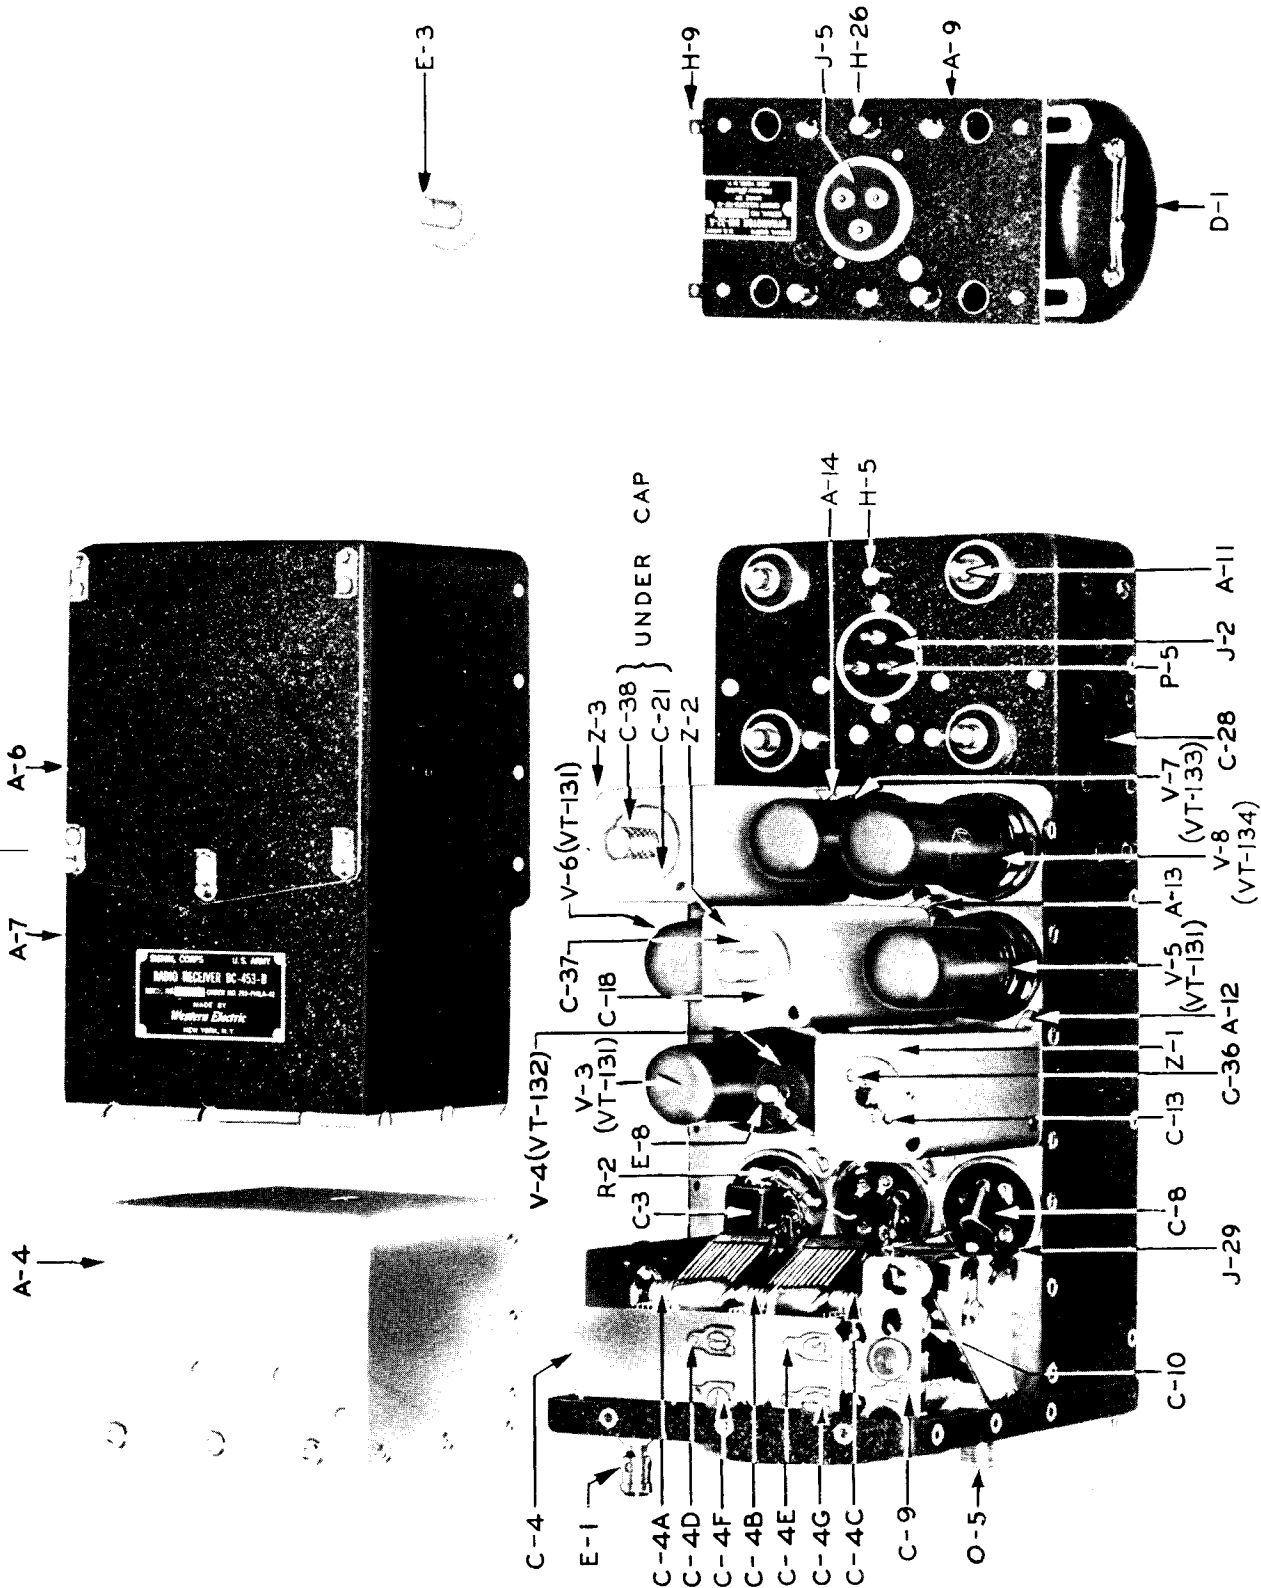
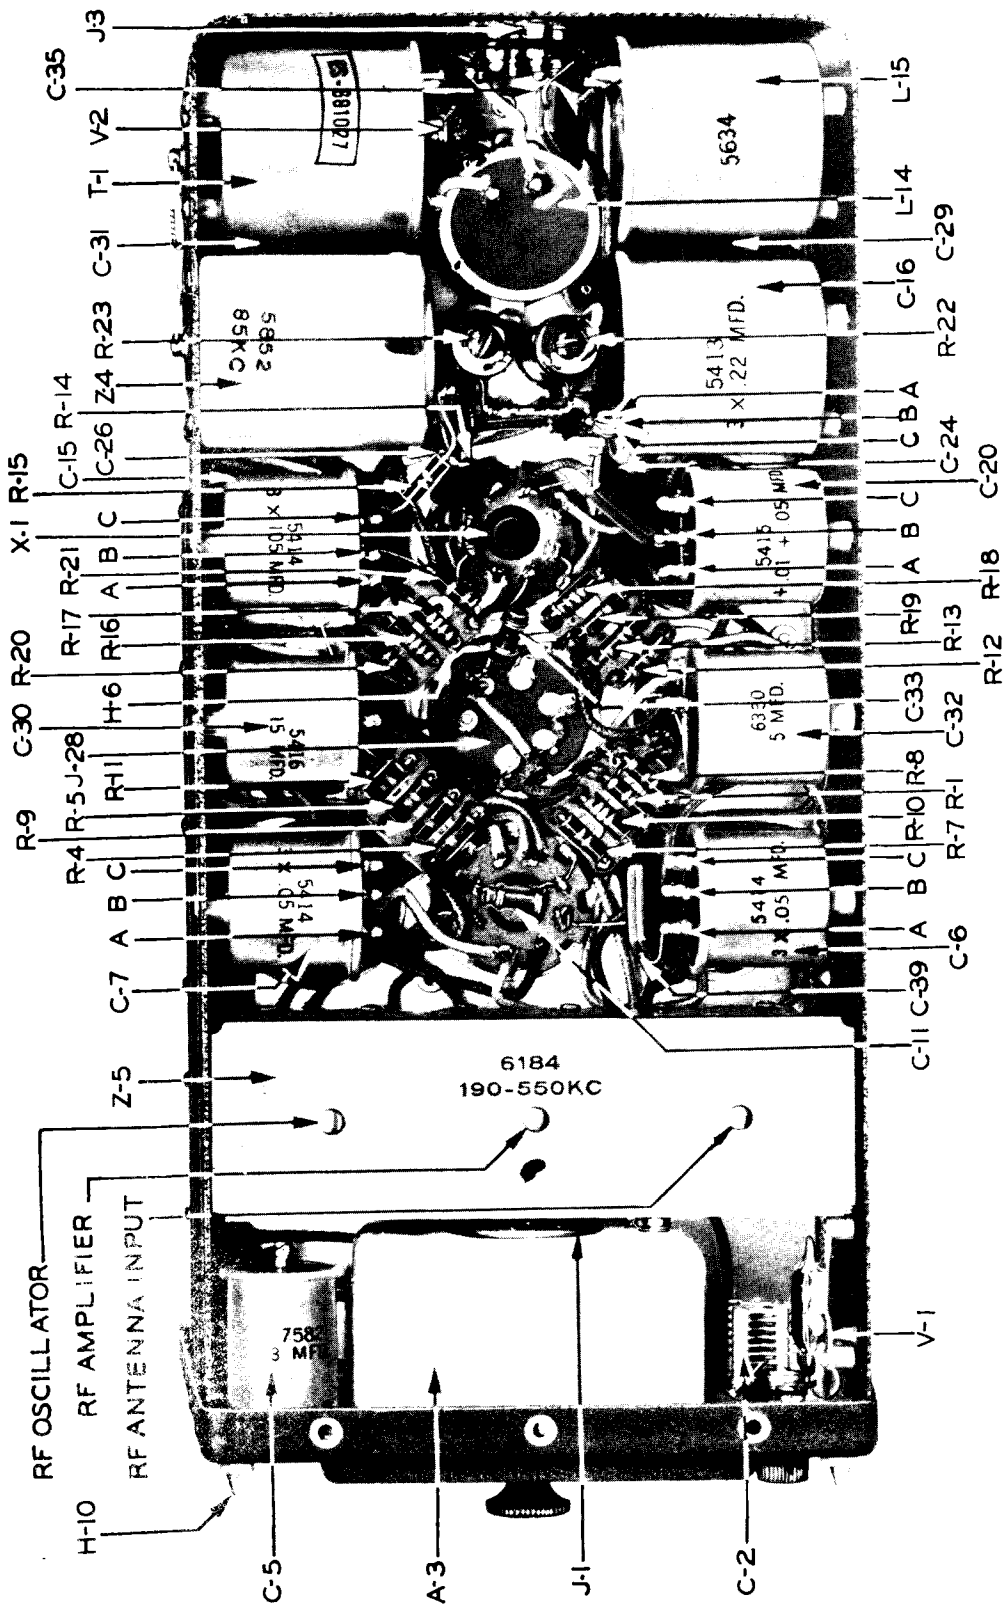

FIGURE 3 — TYPICAL RADIO RECEIVER, TOP INSIDE VIEW, AND BOTTOM VIEW OF DYNAMOTOR DM-32-A
FIGURE 4 — TYPICAL RADIO RECEIVER, BOTTOM INSIDE VIEW
- (2) The radio frequency (r-f) part of these radio receivers consists of the following circuits and vacuum tubes, starting at the antenna: a tuned antenna input circuit, an r-f amplifier tube V-3 (Tube VT-131), a tuned r-f amplifier circuit, a mixer tube V-4 (Tube VT-132), and an r-f oscillator circuit. The antenna, the r-f amplifier and the r-f oscillator circuits are tuned by equal sections of a three-section gang capacitor C-4 (A, B, C). The plate current of mixer tube V-4 contains a frequency component which is equal to the difference between the frequency of the applied signal and that of the r-f oscillator voltage.
- (3) Antenna coil L-1 is contained in Z-5A which is a unit of plug-in r-f coil set assembly Z-5 (Figure 4). Z-5B contains the r-f amplifier coils L-2 and L-3. Z-5C contains L-4, L-5, R-3 and R-6 of the r-f oscillator. L-1 of Z-5A, L-3 of Z-5B and L-5 of Z-5C contain iron cores which are used to adjust each coil to a particular value of inductance. After this adjustment at the factory, the iron cores are sealed in position. A subsequent change in the setting of any of these will upset the tracking of that circuit.
- (4) C-1 is a small fixed capacitor which couples the antenna to the input tuned circuit. The capacitances of C-1 and C-2 are so designed that for any capacitive antenna it is possible to resonate the antenna circuit by tuning C-2.
- (5) C-39 (across L-2 in Radio Receiver BC-453-A (or -B) only) serves to tune L-2 to a frequency lower than 190 kc, and by so doing, to increase the amplification of signals at the low frequency end of the tuning range. This assists in producing a reasonably uniform receiver sensitivity over the tuning range. The plate-to-screen capacitance of r-f amplifier tube V-3 (Tube VT-131) and the capacitance of the wiring to L-2 perform a corresponding function in Radio Receivers BC-454-A (or -B) and BC-455-A (or -B).
- (6) L-5 of the r-f oscillator has a lower inductance than L-3 of the r-f amplifier circuit. This lower value of L-5, aided by the insertion of C-10 between L-5 and ground, results in an r-f oscillation which is higher in frequency than the signal frequency. By design, this difference is equal to the intermediate frequency throughout the tuning range of the receiver. L-4 and L-5 are the grid and plate coils of the r-f oscillator. C-4C, with trimmers C-4E and C-4G, and C-10 with trimmer C-9, together determine the tuning capacitance across L-5. C-8 is a grid blocking capacitor, and R-3 is a grid resistor. R-6 is a series resistor in the plate circuit which not only serves to drop the dynamotor voltage to the proper value for the r-f oscillator, but also acts as an r-f filter in conjunction with C-10 to isolate this circuit from others connected to the high-voltage supply line. C-11 is a compensating capacitor connected across the r-f oscillator tuning capacitor to reduce the frequency drift during the first half hour of operation.
- (7) The intermediate frequency (i-f) part of these receivers consists of three i-f coupling units, Z-1, Z-2 and Z-3 (Figure 3), following the V-4 (Tube VT-132) mixer tube, V-5 (Tube VT-131) first i-f amplifier tube and the V-6 (Tube VT-131) second i-f amplifier tube, respectively. In Radio Receivers BC-453-A (or -B) and BC-454-A (or -B), each i-f coupling unit contains two tuned circuits which are magnetically coupled. Z-1 which is representative of the three coupling units consists of coils